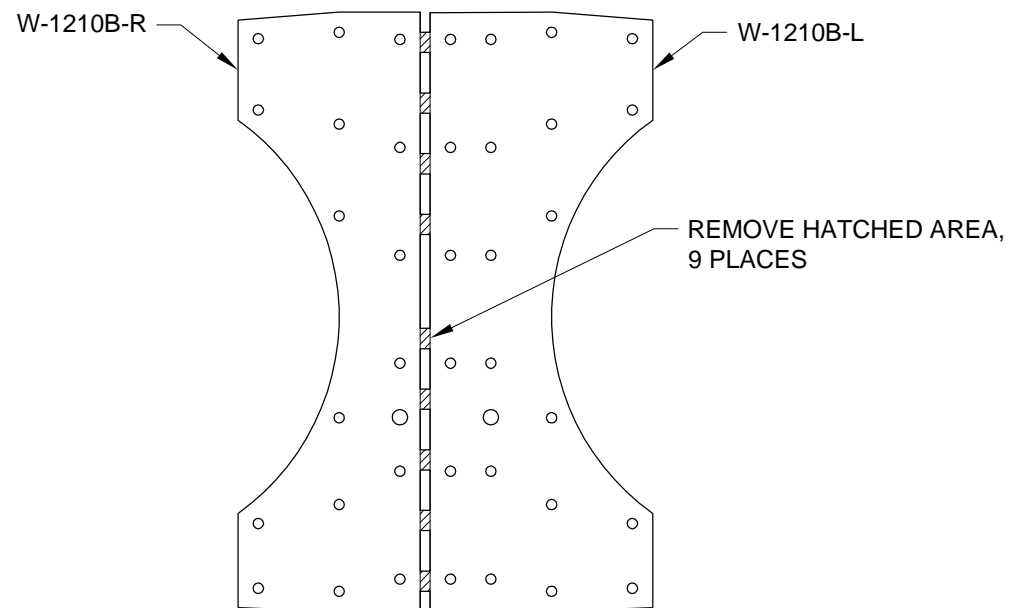

FIGURE 2:
Step 2: Mark, then separate the W-1210B Rib Doublers by removing the joining material as shown in Figure 2.